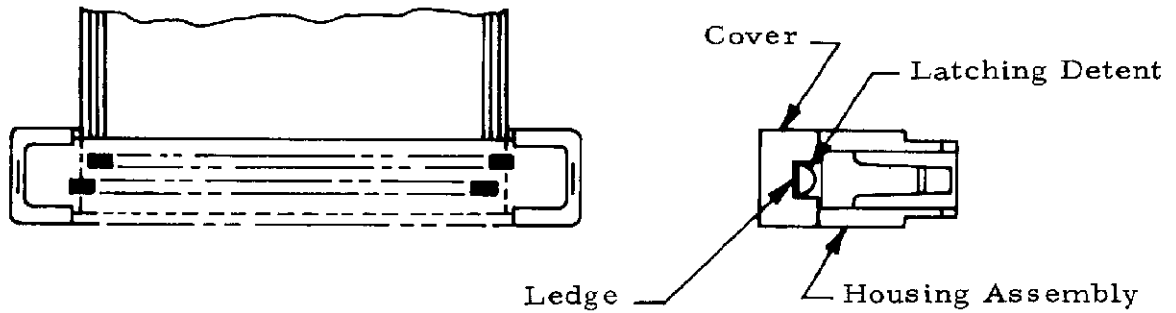

Figure 7
- (2) On 26 position connectors, cover is secured to housing assembly when latching detents are fully seated over ledge as indicated in Figure 7.